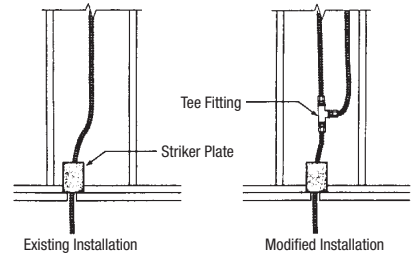

Figure 4.7 Extension of Existing Tubing Run
**Extensions to existing tubing runs:** A concealed run of tubing can be extended with a new pipe run to feed another appliance location, so long as their is sufficient capacity to supply both appliances simultaneously. If an accessible location for the modification is not available, the existing run can be modified with a tee fitting, resulting in a concealed fitting (See Figure 4.7)